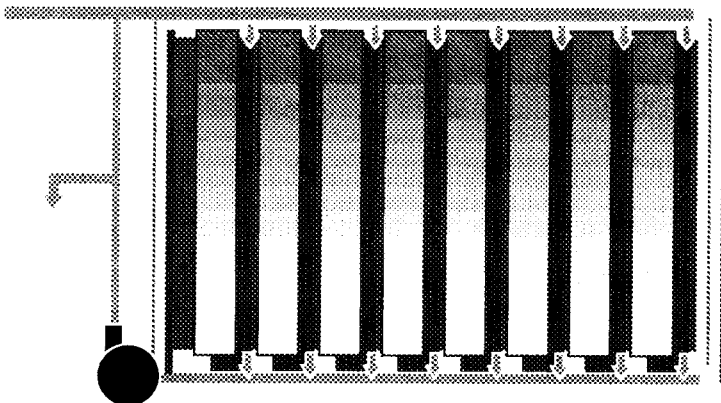

Figure 6-1 CEDI Module
- CEDI Modules (Figure 6-1 and 6-2)